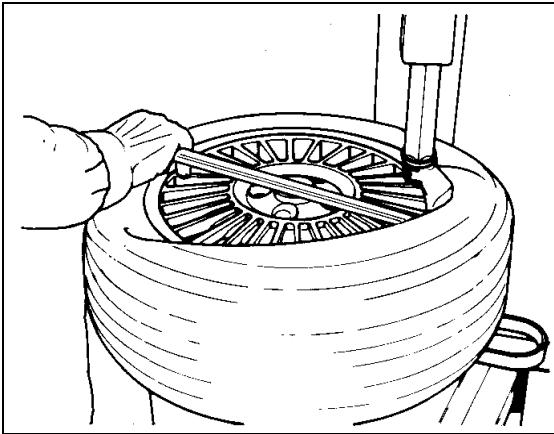

Fig.15
F. Insert the bead lifting tool under the bead and over the support of the mount/demount tool. Lift the bead onto the mounting. To make this operation easier, insure that the bead of the tire, directly across from the mount/demount head, is in the drop center of the wheel. Push the tire into the drop center with your hand or bead depressor tool if necessary. If desired, the bead lifting tool can be removed after lifting the bead onto the finger (Fig. 15).